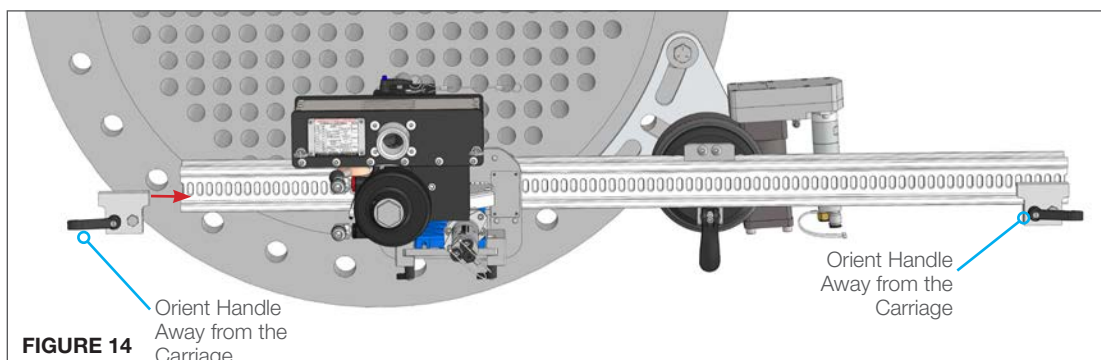

FIGURE 14
19. Loosen the handles on the two Rail Stops and slide one onto both ends of the Slotted Rail. Rotate the handles so they face away from Linear Drive (as shown) and ensure that they are securely fastened. (Figure 14)